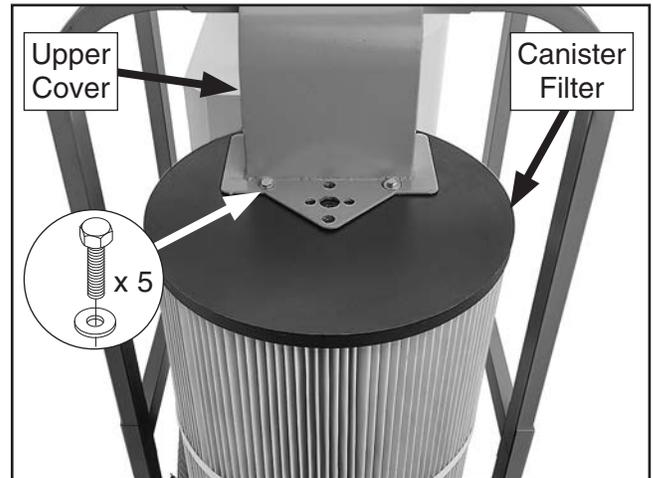

Figure 66. Canister filter mounted to upper cover.
5. Remove (5) $\frac{5}{16}$ "-18 x $\frac{3}{4}$ " hex bolts and (5) $\frac{5}{16}$ " fender washers securing canister filter to bottom of upper cover (see **Figure 66**), then remove canister filter with assistant's help.